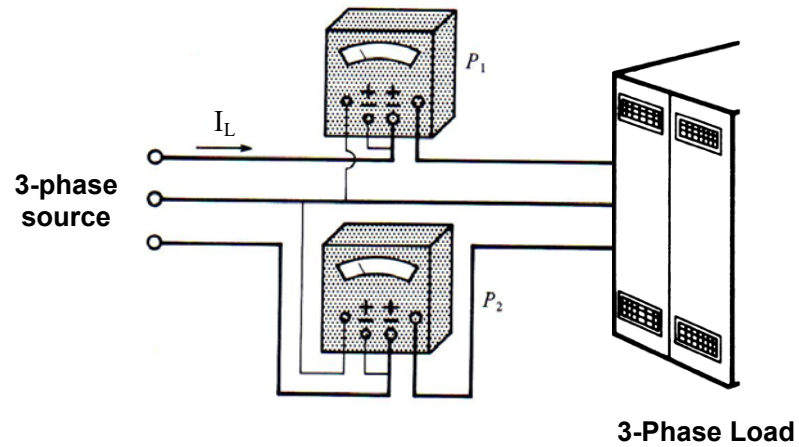

Figure 3.1
- (c) Two wattmeters are connected to a 3-phase, 3-wire, 415 V line as shown in Figure 3.1. The readings on wattmeters  $P_1$  dan  $P_2$  are 3.8 kW and 5.5 kW respectively. If the line current is 15 A, calculate: